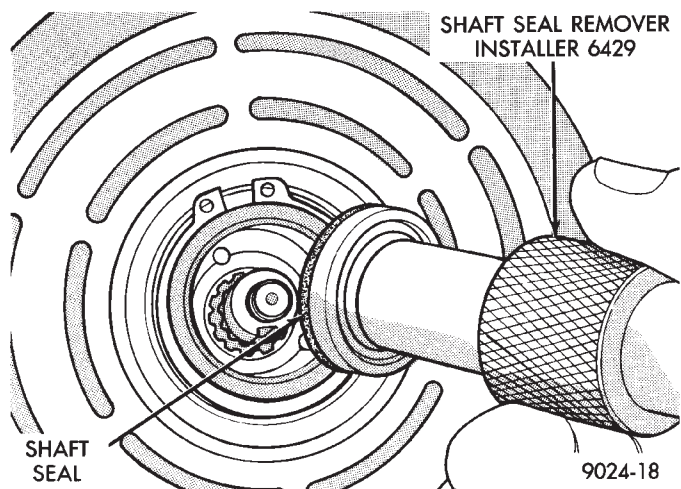

Fig. 3 Remove Shaft Seal
- (7) Using Seal Remover/Installer (6429), remove the shaft seal (Fig. 3).